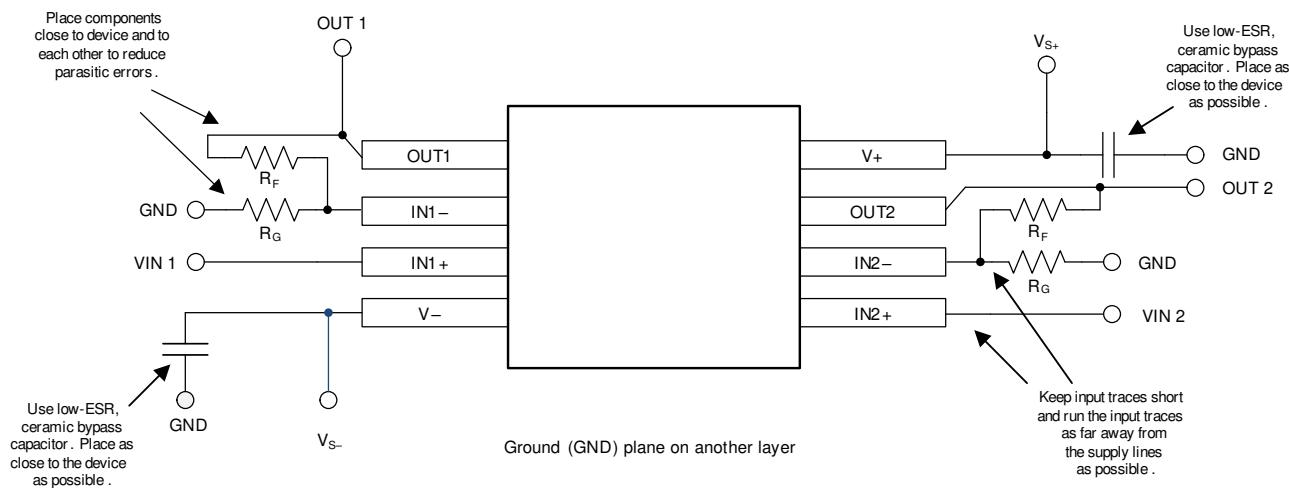

Figure 45. Layout Example
- Place the external components as close to the device as possible. As illustrated in Figure 45, keeping R_F and R_C close to the inverting input minimizes parasitic capacitance on the inverting input.